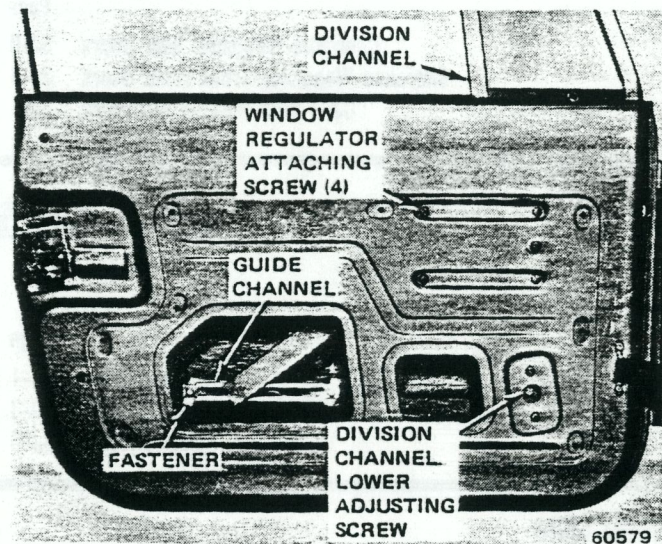

Fig. 3J-1 Door Glass Replacement—CJ Models
- (1) Remove door trim panel and water shield.
- (2) Loosen division channel lower adjusting screw and move division channel fore or aft to obtain desired door glass operation (fig. 3J-1).